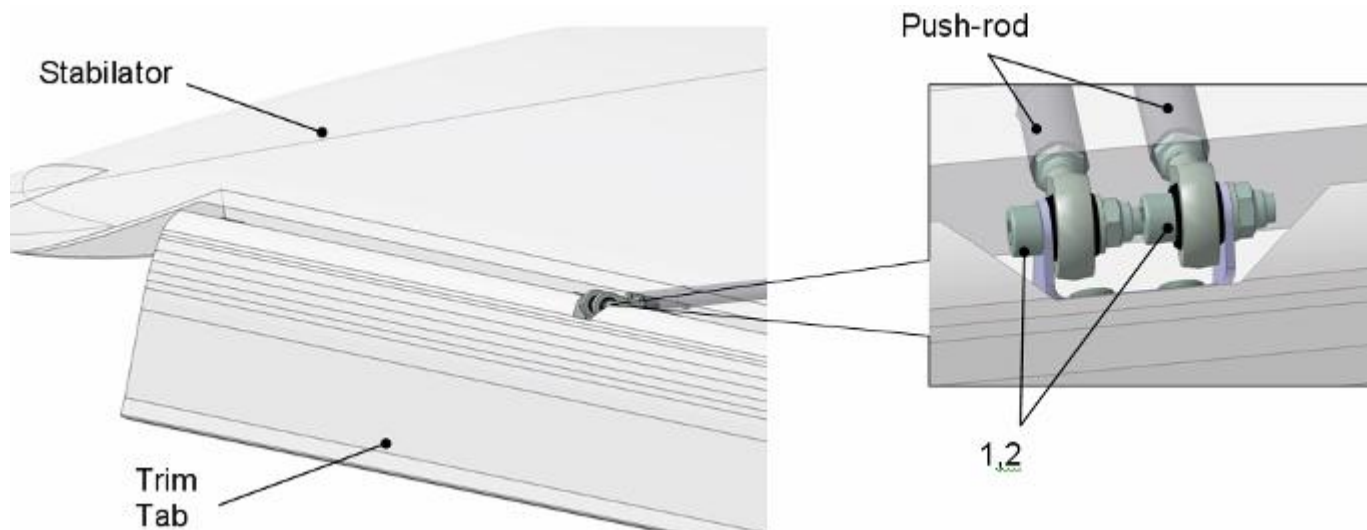

Fig. 4-3
Put the Stabilator on saw horses, on stands or on a table with soft covers, with the lower skin upwards. Deflect Trim Tab to provide access to Trim Tab push-rods. Unscrew and remove fixing bolts (1) and nuts (2) after that detach push-rods, Fig. 4-3.